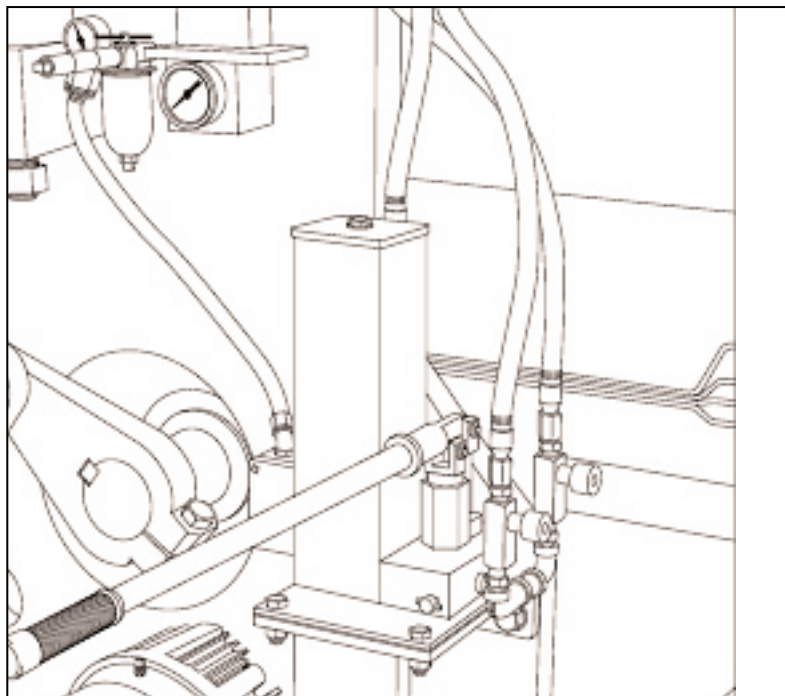

Figure 4.25 HYDRAULIC JACK SYSTEM.
- c. Raise mold throat frame up by using hydraulic jack system (figure 4.25) just high enough to allow all lower spacers to be added or removed at all four corners.